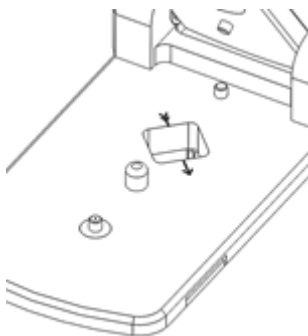

Figure 34
- (1) Click "Settings" in the main interface, or click "Menu" and select "Settings" in any measure items, select "Use Cuvette" in "General Setting", set "Optical Path", "Stir Speed" and whether to "Heat to 37°C" and click "Save".
- (2) Prepare two cuvettes, one with blank measure liquid and the other with sample, to ensure that the amount of liquid added is sufficient to cover the optical beam. The optical beam (2 mm wide) is positioned 8.5 mm above the bottom of the cuvette, add liquid as recommended by the manufacturer. (3) Click the "Settings" on the home page of the display screen to enter the setting page, click "General Setting", select "Use Cuvette", insert cuvette, check baseline correction, and set corresponding parameters for blank measure and measure.
- (4) Lift the upper arm and insert the cuvette with the blank solution into the apparatus, paying attention to the illuminating surface when inserting the cuvette, which should be corresponded to the direction pointed by the optical path on the instrument (as shown in the arrow direction in Figure 34) Lower the upper arm and click "Blank Measure" to measure the blank value.
- (5) Lift the upper arm, remove the cuvette with the blank solution, put it into the cuvette with the sample, lower the upper arm and click "Measure" to complete the sample measurement.
- (6) Remove the cuvette, pour out the sample and clean the cuvette when the measure is finished.